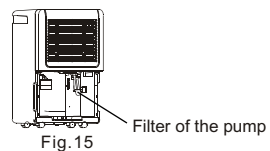

Fig. 15
-Remove the bucket from the unit, take down the pump and clean the filter of the pump (See Fig. 15).